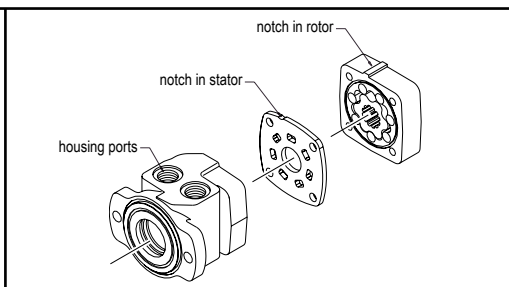

FIGURE 2
- F)** Turn shaft (21) over so that output end of shaft faces down. Install cooling plug (20) down into shaft (21) making sure large O.D. end of cooling plug (20) faces up. Lower drive link (12) into shaft making sure that timing mark end of drive link faces up and that the timing mark on the end of the drive link (12) is aligned with one of the through holes in the shaft (21). When splines contact each other, slowly rotate drive link (12) counterclockwise for a "200" series, or clockwise for a "201" series motor until drive link splines engage with those on shaft (21).
- G)** Turn housing (19) over so that pilot of housing faces down and secure housing (19) in vise. Without disturbing seal carrier assembly (9) or drive link (12), carefully lower shaft assembly into housing. To seat seal carrier (9) against wire ring (2), gently tap drive link (12) down until end of shaft (21) is nearly flush with rear surface of housing.
- H)** Place a body seal (8) in the groove in the rear surface of the housing (19). Using alignment marks as a guide, place wear plate (13) on housing making sure that notch in wear plate (13) is aligned with port side of housing (20) (See Figure 2).
- I)** Place a body seal (8) in the groove in the face of the rotor assembly (14). Lower rotor (14) onto drive link (12) making sure that timing mark on drive link is aligned with a peak on the rotor (14) (See Figure 3). Once splines are engaged, rotate rotor (14) so that notch on rotor is aligned with notch on wear plate (13) and ports on housing (19) (See Figure 2). Insert drive link pin (15) into end of drive link (12) making sure that concave end faces up.
- J)** Place remaining body seal (8) in groove in endcover (16). Using alignment marks as a guide, place endcover (16) onto motor making sure that end of drive link pin (15) is in hole in center of endcover. Insert four assembly bolts (18) into bolt holes and pre-torque to 13,6 Nm [10 ft. lb.]. Using a crisscross pattern, torque bolts to 67,8 Nm [50 ft. lb.].
- K)** Remove motor from vise and place on work surface with shaft (21) facing up. Making sure that lip on dust seal (1) faces up, place dust seal (1) over shaft (21). Using a sleeve and hammer, carefully drive dust seal (1) into place.